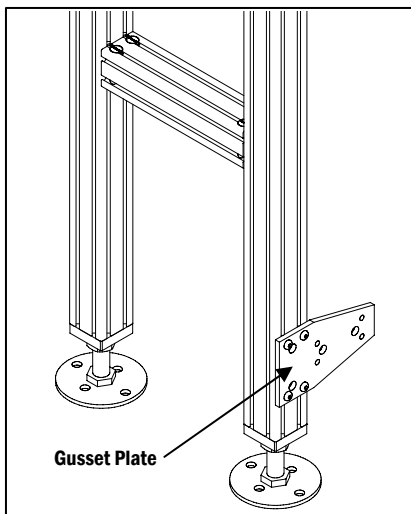

Figure 3
b. If the stands are to be used with Aluminum Cross Ties, it is advised to attach the Gusset Plates prior to mounting the conveyor (Figure 3). Refer to Section 2.06 on Aluminum Cross Ties for specific instructions.